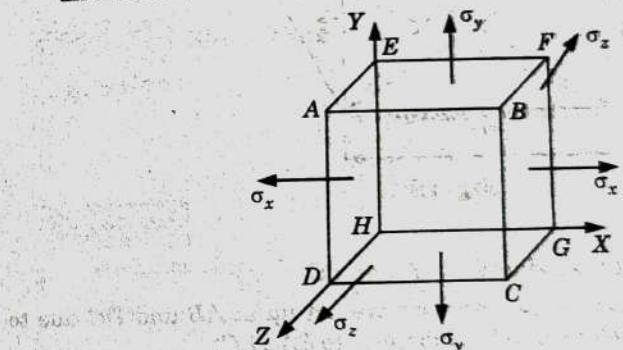

Fig. 1.5.1.
2. Consider a cubical element subjected to stress σ along X, Y and Z directions (as shown in Fig. 1.5.1).